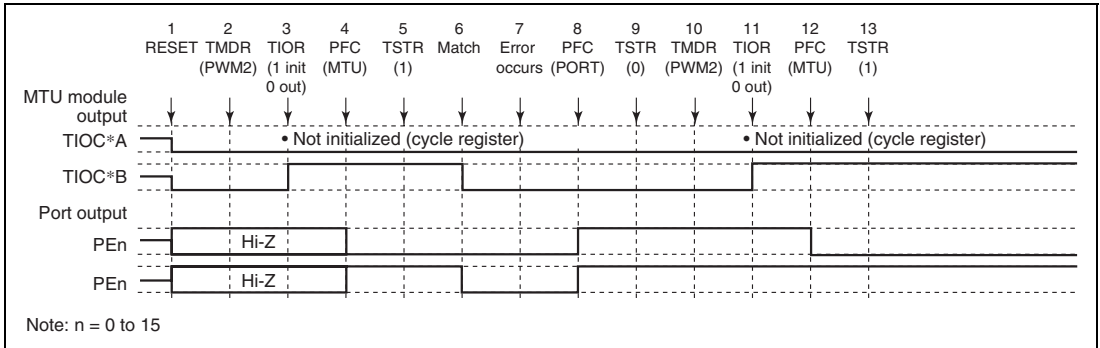

Figure 8.98 Error Occurrence in PWM Mode 2, Recovery in PWM Mode 2
(15) Operation when Error Occurs during PWM Mode 2 Operation, and Operation is Restarted in PWM Mode 2: Figure 8.98 shows an explanatory diagram of the case where an error occurs in PWM mode 2 and operation is restarted in PWM mode 2 after re-setting.